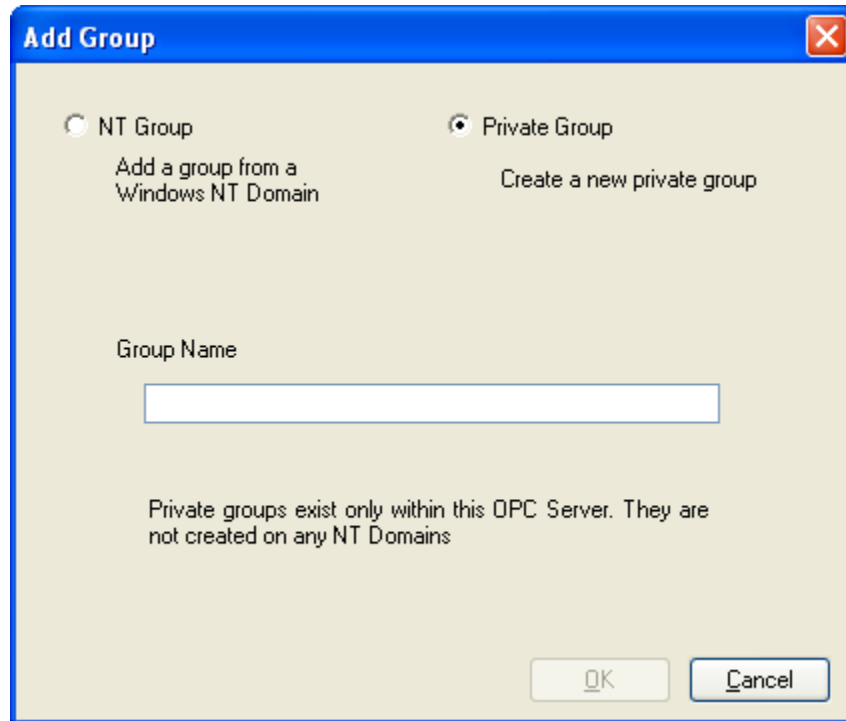

Figure 81 - Add Group Window (Private)
3. Select the **Private Group** option button (Figure 81).